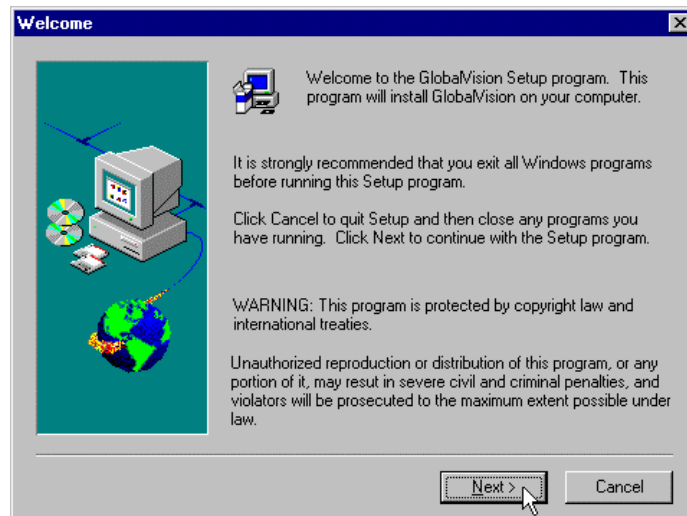

Figure 9 – Welcome dialog box
5. The WELCOME dialog box will appear. After reading, click on **NEXT>**. See Figure 9.